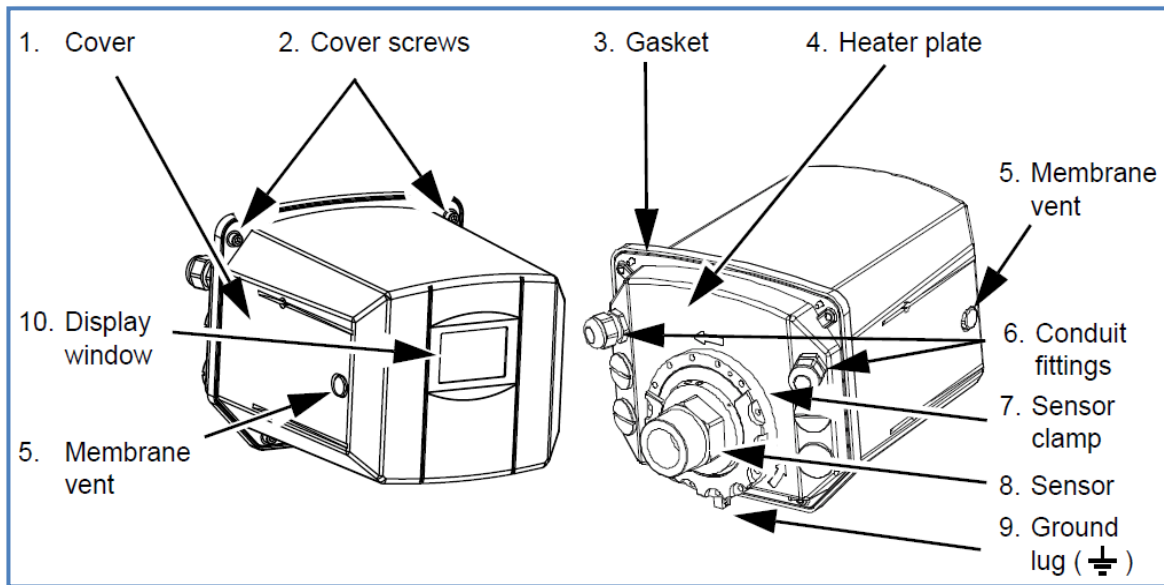

Figure 3-3: External Parts of the Hydran M2-X
The enclosure is composed of the following parts (see Figure 3-3):
7. **Breathing hole:** Air penetrates through the watertight membrane vent (see item 5 in Figure 3-3) and inside the Hydran M2-X, and the breathing hole allows the air to reach the gas detector (inside the sensor). The gas detector requires air to work properly.